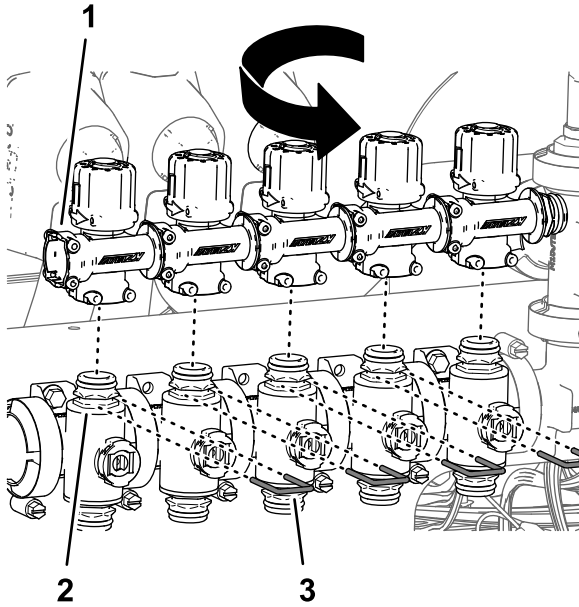

Figure 102
- Rotate the bypass valves 180° and assemble them onto the quick disconnect fittings of the section valves (Figure 102).
- Secure the bypass valves to the section valves with the retainers (Figure 102) that you removed in step 4.